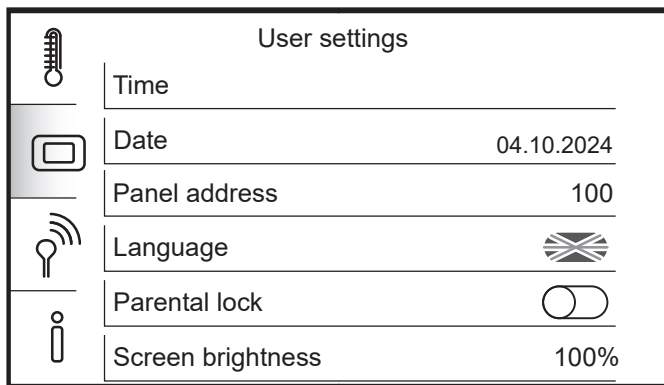

Figure 11-4: User settings menu
4. Then tap the User settings. Refer to Figure 11-4.